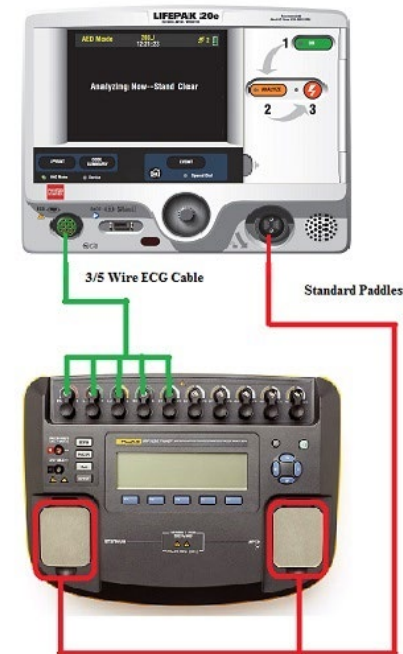

Figure 2.5: Standard Paddles Defibrillator Charge Time Test Setup
1. Establish the setup as shown in Figure 2.5.